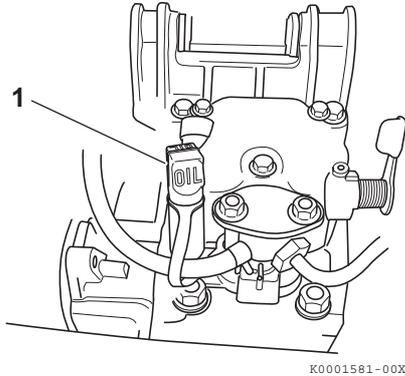

Figure 8
1. Remove the oil plug (**Figure 8, (1)**).
3. Reinsert the oil plug (**Figure 8, (1)**).